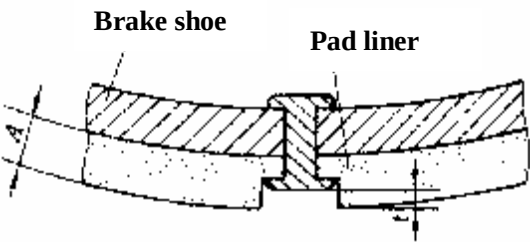

Figure 7-8-9 Measure embedded depth of rivet
(1) Pad. Check pad for scratch, wear, crack and lining deterioration due to overheating. Replace if necessary.
(2) The depth limit that rivet inserted into pad see figure 7-8-9. Replace worn-out pad.